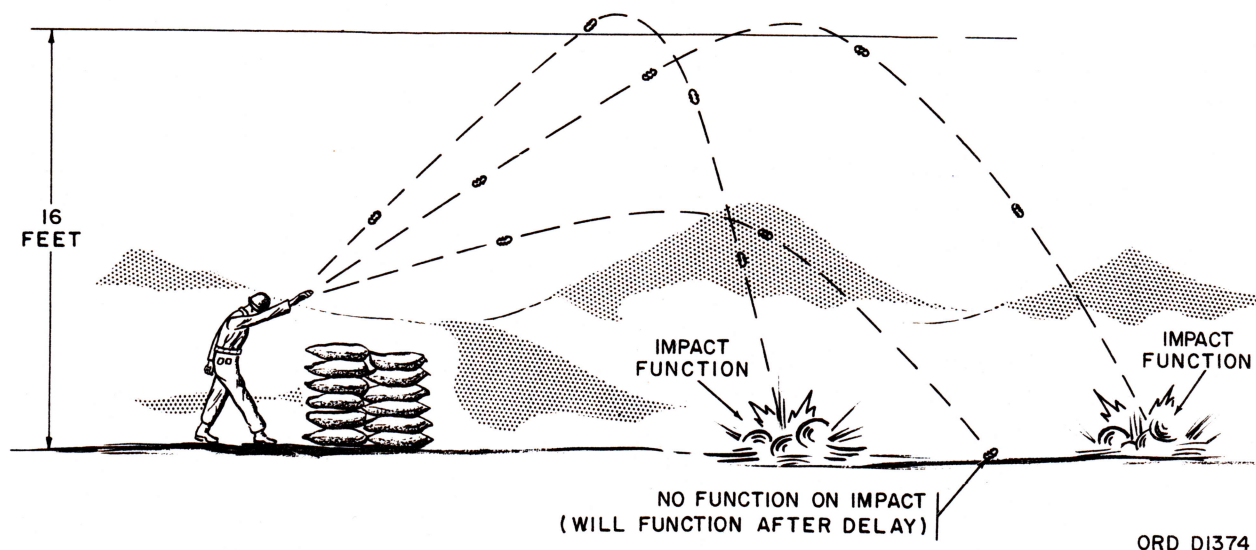

Figure 2-8. Impact functioning use of hand grenade M26A2 w/ fuze M217.
- (5) *Use.*
- (d) Throw grenade so that it attains a height of at least 16 feet above the ground (fig. 2-8) and thus allows adequate time for fuze to arm prior to impact. Take cover immediately. Do not attempt to observe functioning.